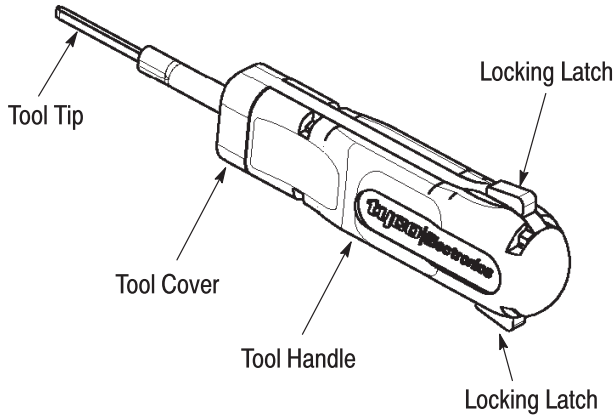

Figure 1
Extraction Tool 1-1579007-4 consists of a tool handle, tool cover with locking latches, and an extraction tool tip. Refer to Figure 1.
1. Depress the locking latches (see Figure 1) on the extraction tool cover and slide the cover to expose the extraction tool tip.